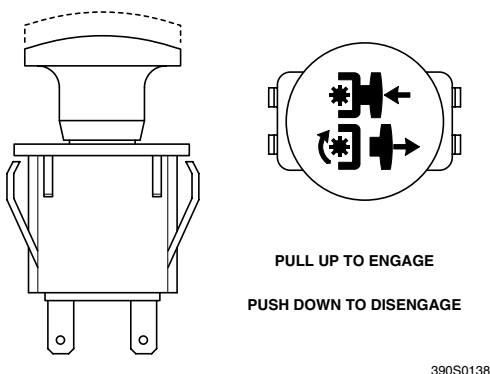

Figure 4-4. Cutter Engage Switch
2. Engage the deck drive by pulling up on the yellow switch, located on the instrument panel, to the engage position. See Figure 4-4.